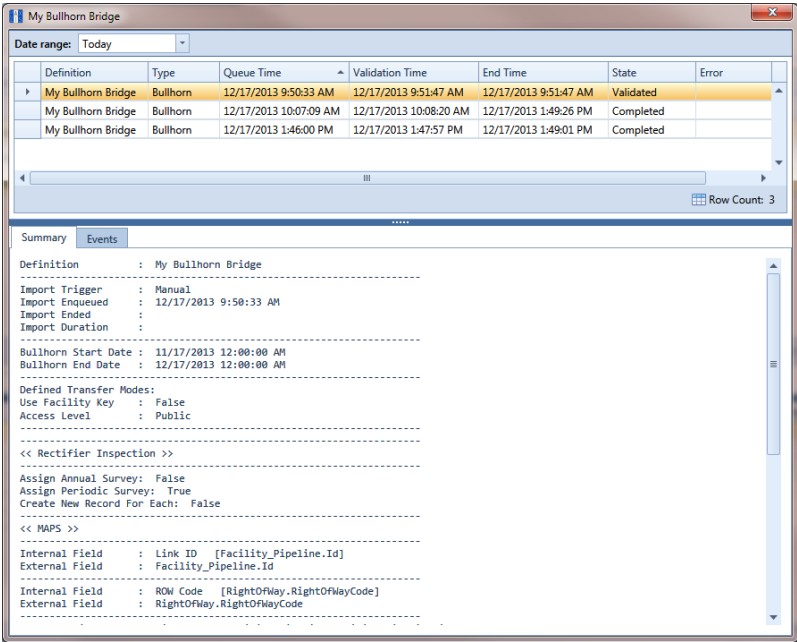

Figure 10-57. Log
- 6 Click **Log** for a selected definition to open a window with detailed information (Figure 10-57).